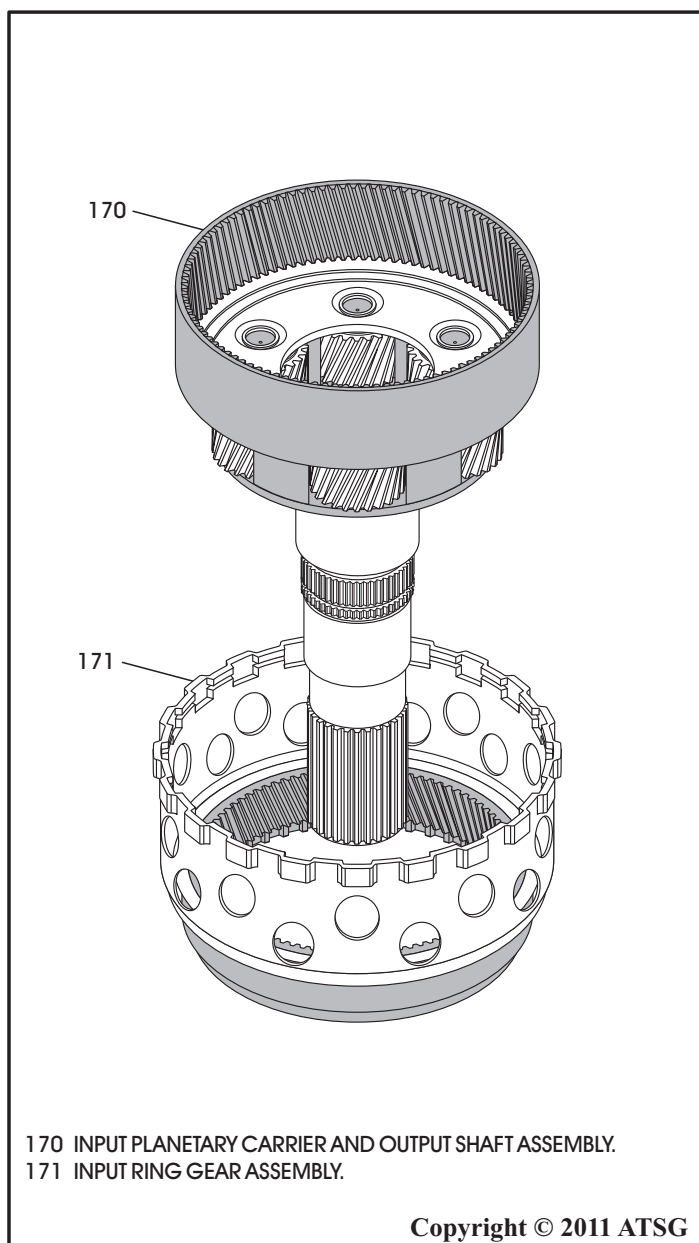

Figure 88
8. Install the input ring gear assembly onto input planetary carrier and output shaft from the back side as shown in Figure 88, and engage onto the input carrier pinions.